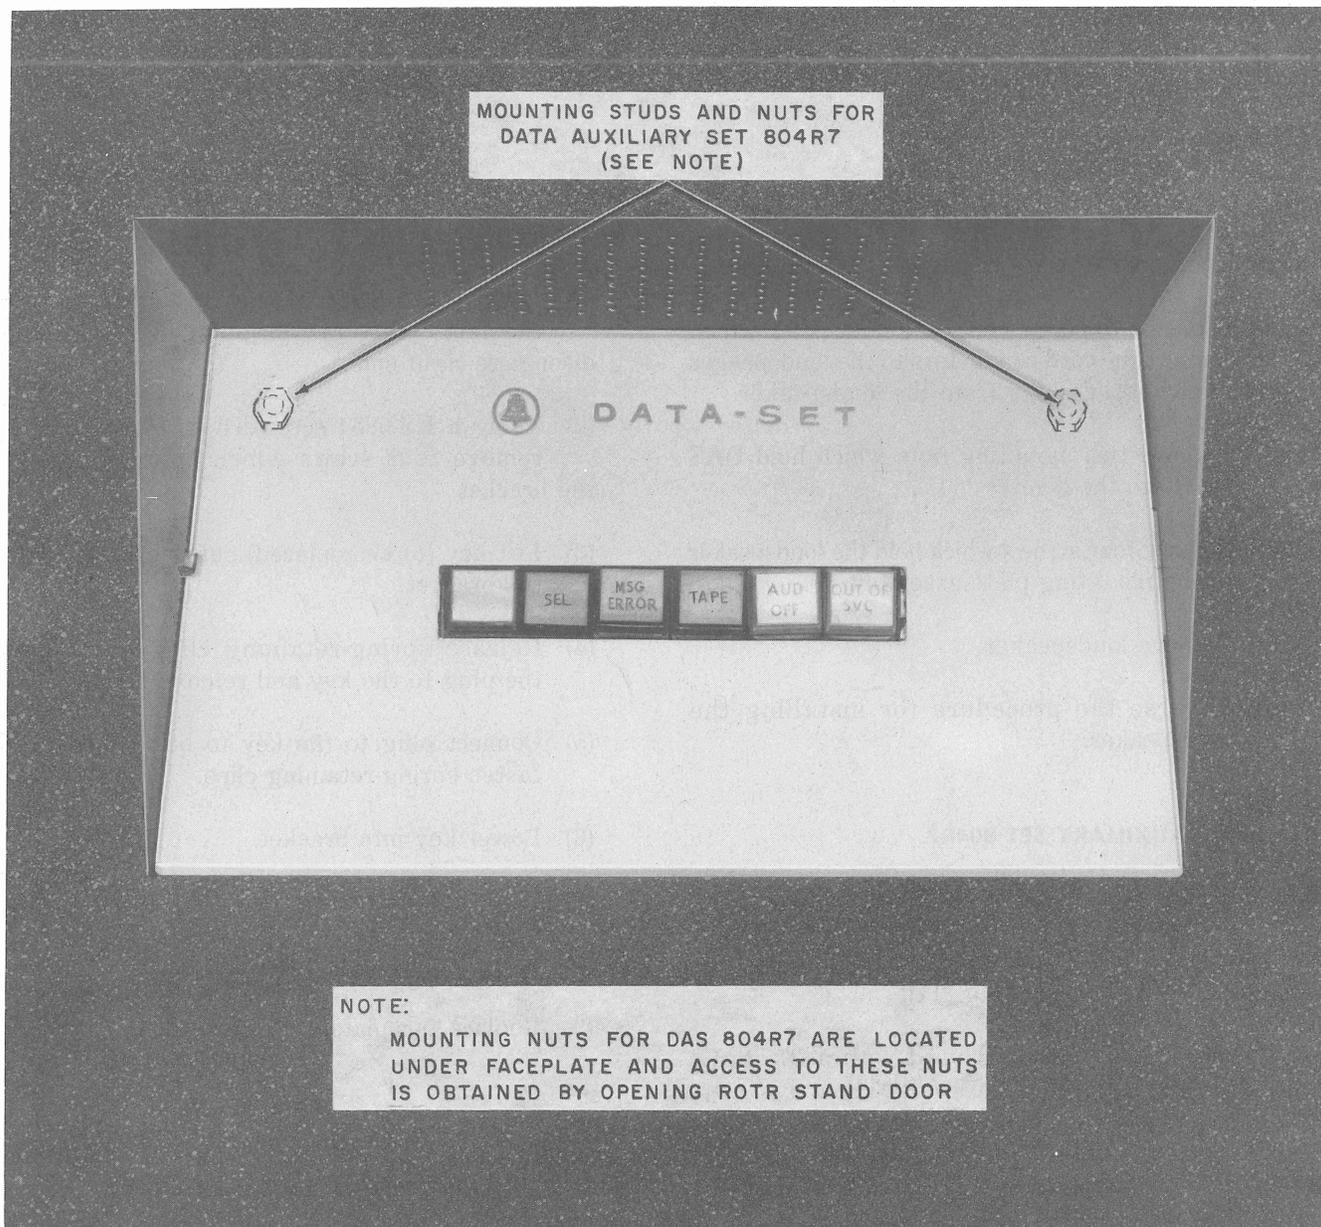

Fig. 11—DAS 804R7 Mounted in the Door of a Primary 35 ROTR TTY
8.01 Maintenance of DAS 804R7 is limited to the replacement of lamps, keys, cord, and/or loudspeaker. The DAS 804R7 is mounted in the door of the ROTR stand (Fig. 11).